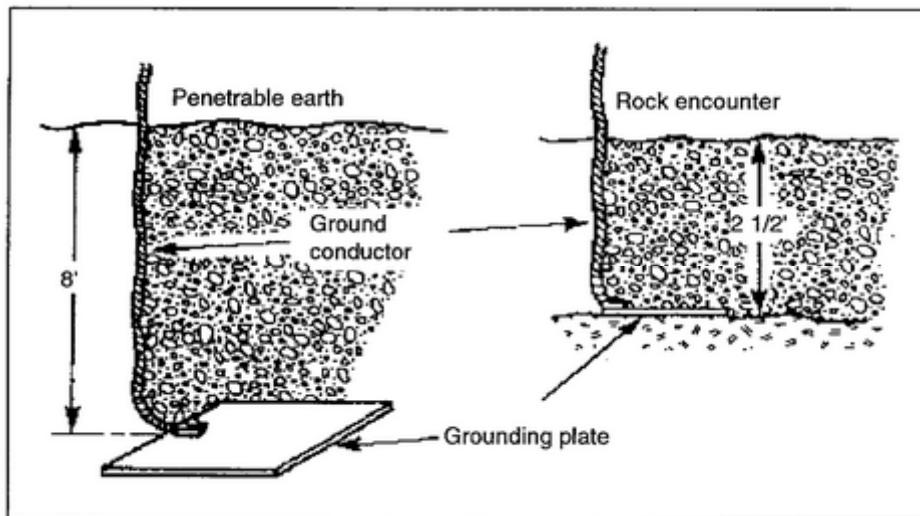

Figure 1-22. Depth of grounding plate
e. The depth requirements for grounding plates are the same as those for grounding rods (Figure 1-22).